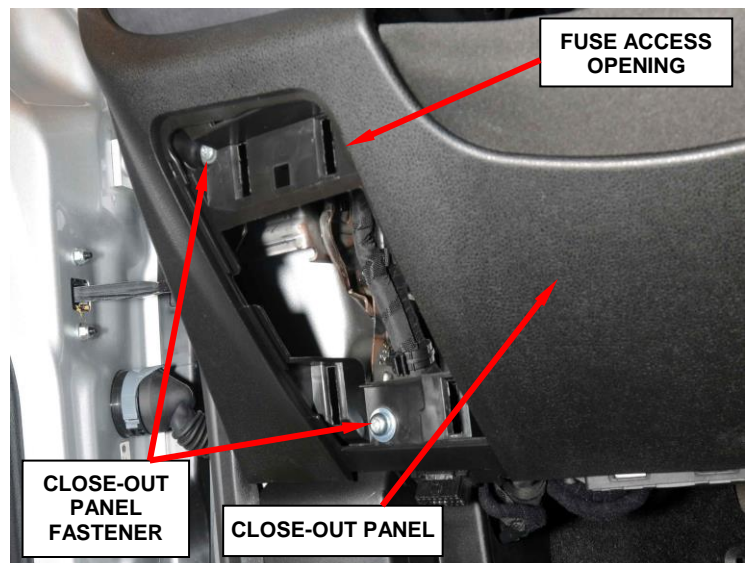

Figure 2 – Close-Out Panel Fasteners
3. Remove and save the two fasteners from the fuse access area (Figure 2).